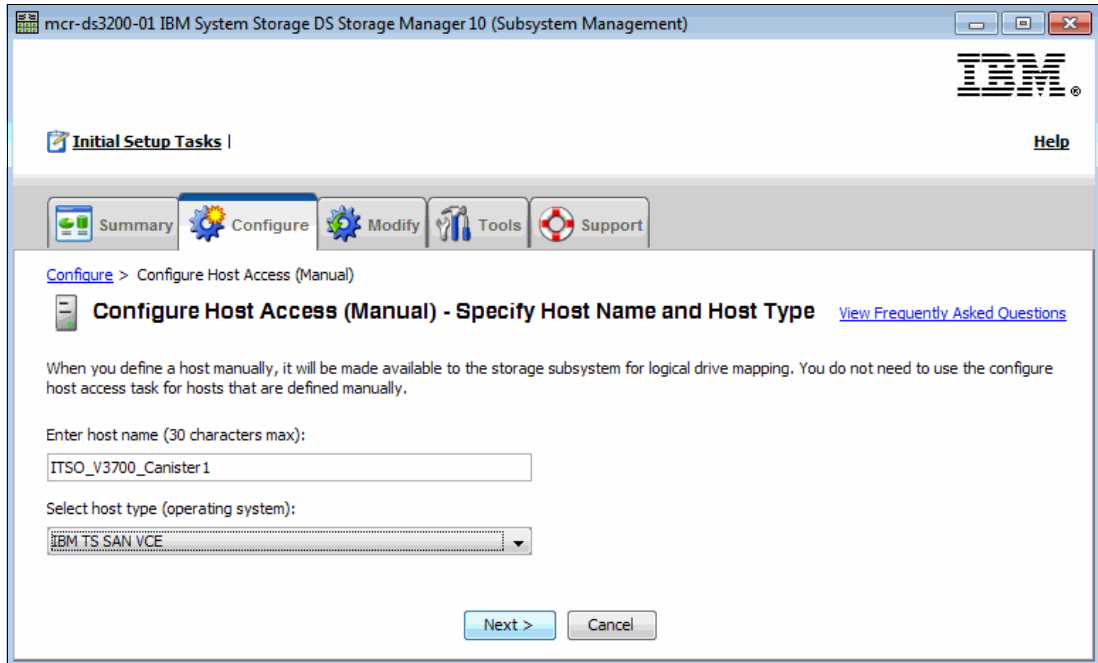
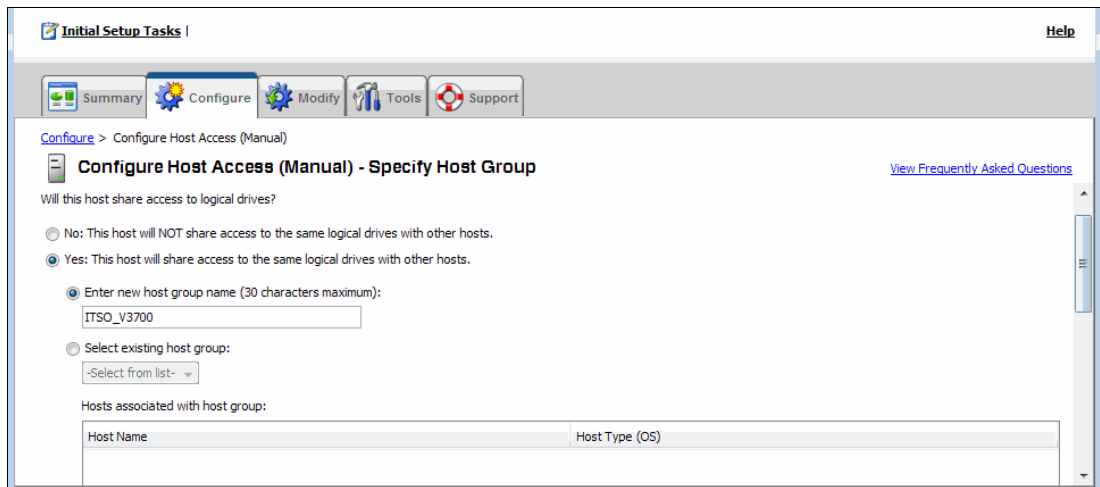
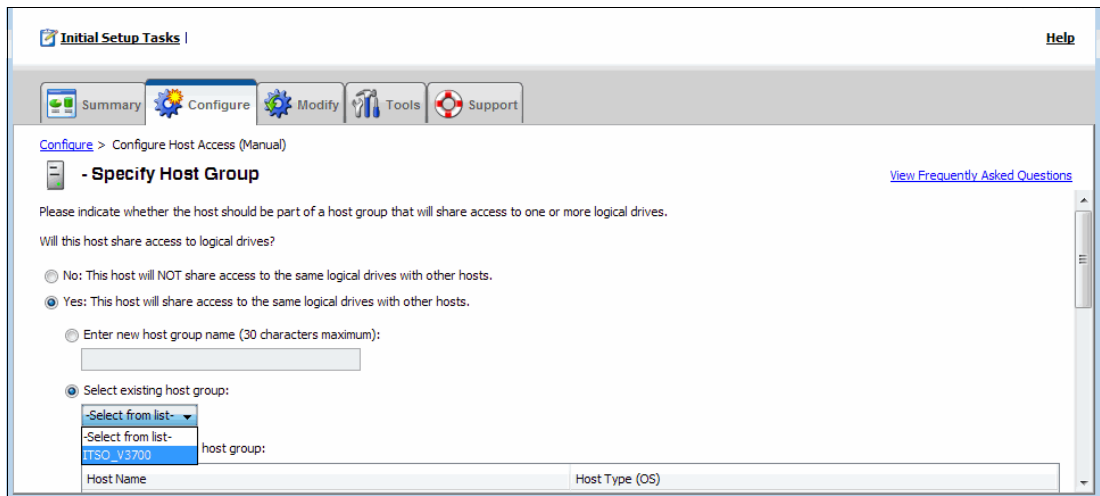

Figure 6-31 Defining a host: Storage Manager GUI
Figure 6-33 Adding host to host group: Storage Manager GUI
Figure 6-35 Adding second host to existing host group: Storage Manager GUI
4. A wizard starts to guide you through the creation of each host. Enter the host name and define the host type. For IBM Storwize V3700, use **IBM TS SAN VCE**, as shown in Figure 6-31.
- Return to the Storage Manager GUI and continue creating the Storwize V3700 hosts. Click **Next** to add the host to a new host group, as shown in Figure 6-33. In this example, call the host group ITS0_V3700.
9. Click **Yes** and follow the steps from Figure 6-31 on page 275 to Figure 6-33 on page 276. When adding the second host to a host group, this time select an existing host group, as shown in Figure 6-35.